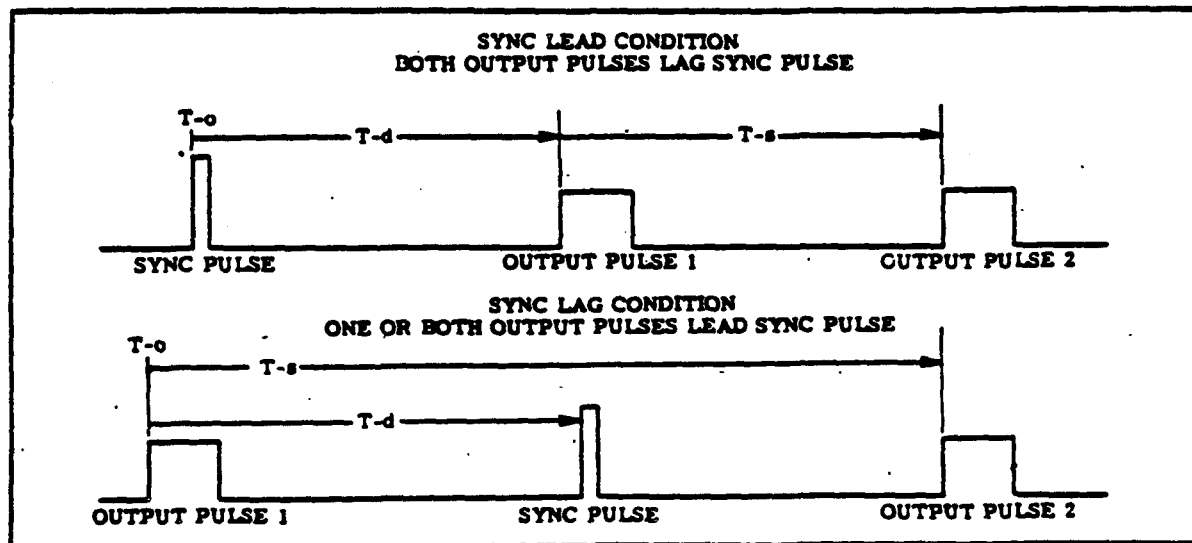

Figure 1-3. Pulse Relationships
1-19. SYNC LEAD CONDITION. (see figure 1-3). In this condition, the pulse pattern starts at zero time
1-20. SYNC LAG CONDITION. (See figure 1-3). The significant alterations from sync lead condition are:
1-21. The connection between T-o, T-d and T-s and the individual pulses is shown by figure 1-3.
2-13. "DELAY" dial (13) is the continuous control for varying the time between T-o and T-d (see figure 1-3). The dial has the "SHORT" scale of 2-20 usec and the "LONG" scale of 20 to 220 usec. These scales are selected by the "DELAY" switch. Red markings are the "LONG" scale.